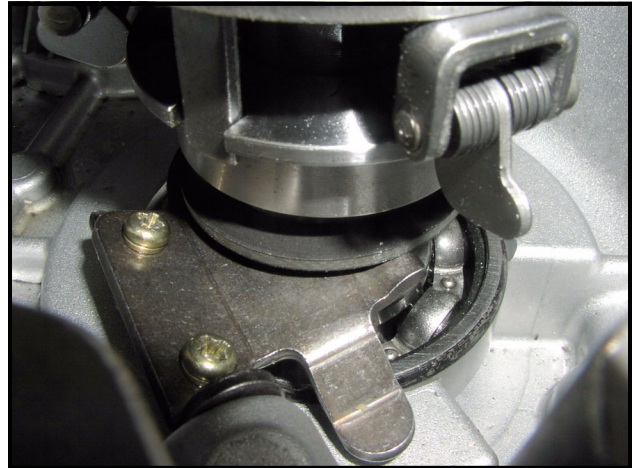

Figure 8-87 Ground Speed Governor Yoke Bracket
- Make sure that the ground speed governor yoke bracket is below the fiber washer on the shaft control mechanism (**Figure 8-87, Page 8-25**).